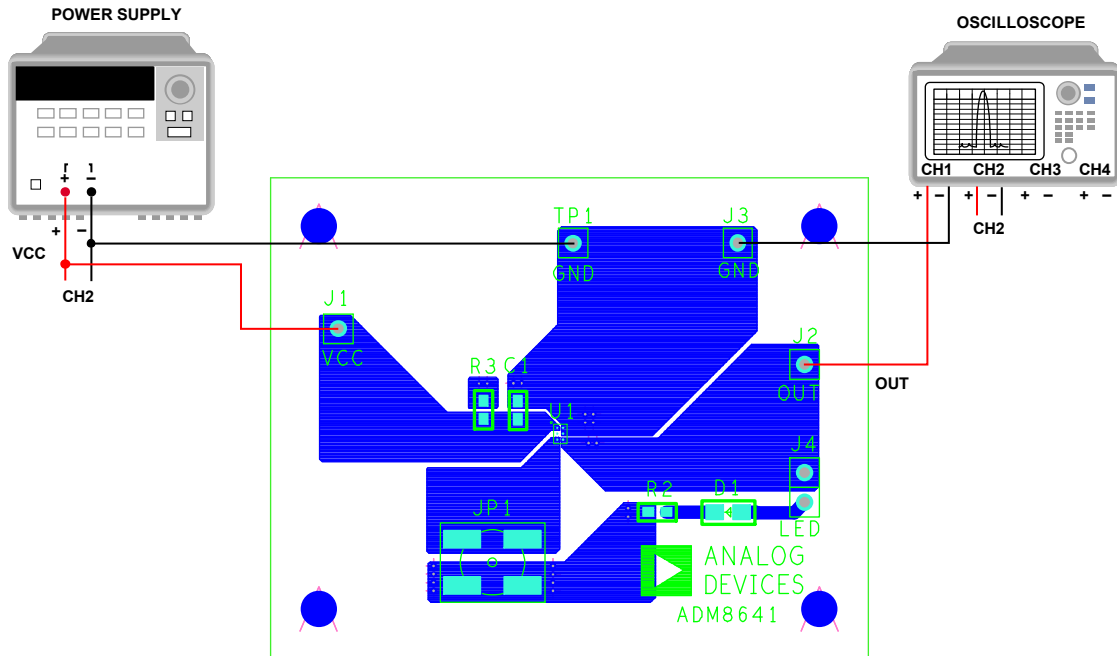
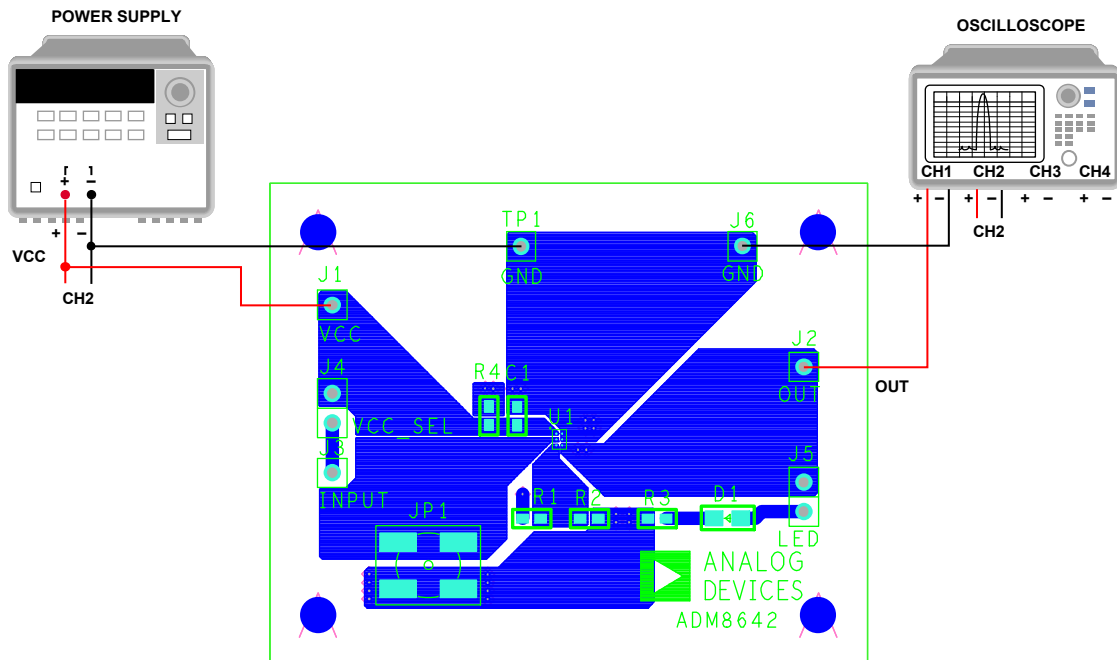
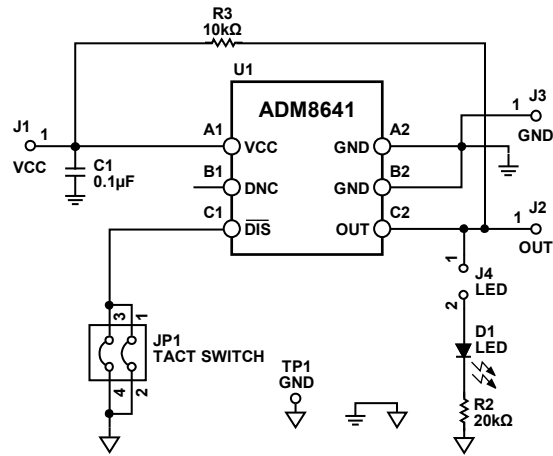
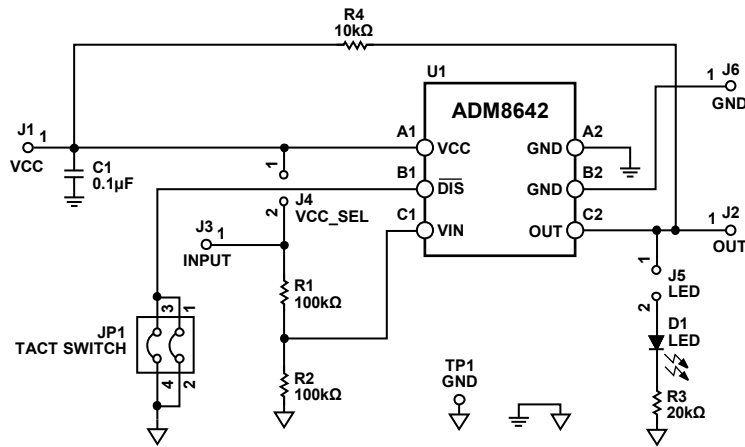

Figure 3. ADM8641-EVALZ Connection Diagram
Figure 4. ADM8642-EVALZ Connection Diagram
Figure 5. ADM8641-EVALZ Schematic
Figure 6. ADM8642-EVALZ Schematic
Through the systems shown in Figure 3 and Figure 4, the ADM8641-EVALZ/ADM8642-EVALZ evaluate the **ADM8641/ADM8642** ultralow power voltage detectors that have pretrimmed voltage monitoring thresholds of 2.63 V and 1 V, respectively. These thresholds are accurate up to  $\pm 1.3\%$  and  $\pm 1.6\%$  for the ADM8641-EVALZ and ADM8642-EVALZ, respectively.
This section explains how to evaluate the performance of the ADM8641 using the ADM8641-EVALZ. For this procedure, refer to Figure 3 and Figure 5 and take the following steps:
1. Connect the power supply and the oscilloscope to the ADM8641-EVALZ, as shown in the Figure 3 connection diagram.
This section explains how to evaluate the performance of the ADM8642 using the ADM8642-EVALZ. For this procedure, refer to Figure 4 and Figure 6 and take the following steps:
1. Connect the power supply and the oscilloscope to the ADM8642-EVALZ, as shown in the Figure 4 connection diagram.